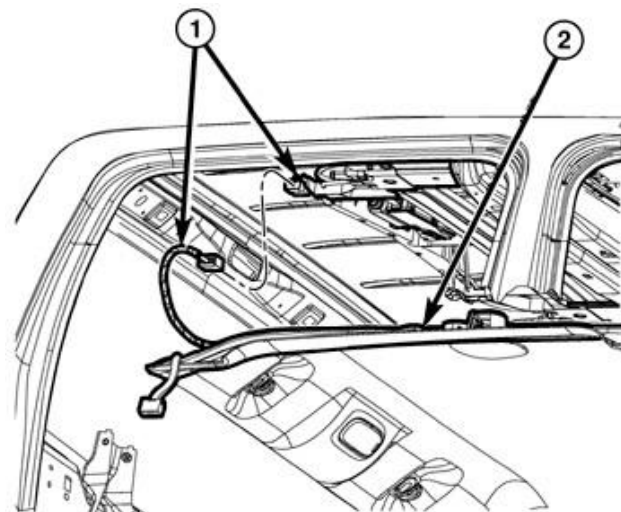

Figure 59 – Headliner Harness
23. Carefully tilt the front of the headliner (2) down to clear the rear view mirror then slide the headliner forward to clear the C-pillar trim while disconnecting any wiring harness electrical connectors (1) as necessary to allow enough wiring harness slack to lower the headliner (Figure 59).
24. lower the headliner (2) allowing it to rest on the seat backs and instrument panel (Figure 59).
41. Raise the headliner into proper vehicle position and connect any electrical connectors previously disconnected from the headliner (Figure 59).